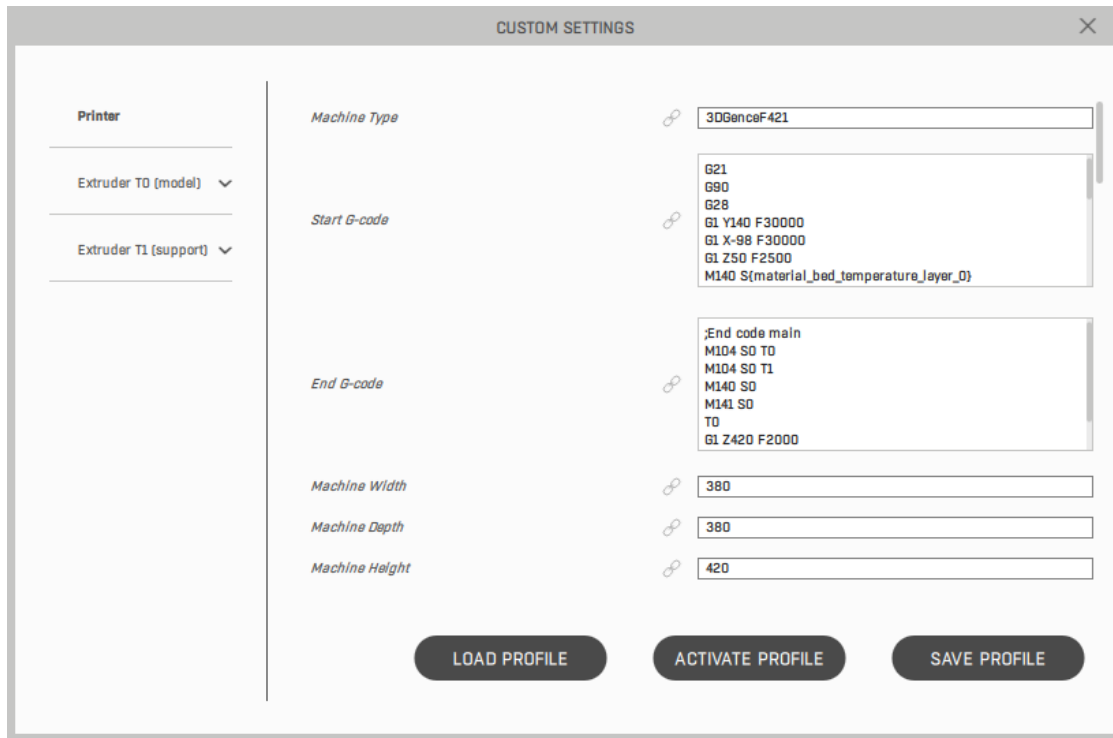

Fig. 32 Advance editing window
6. A window will appear in which you can modify the settings (Fig.32).